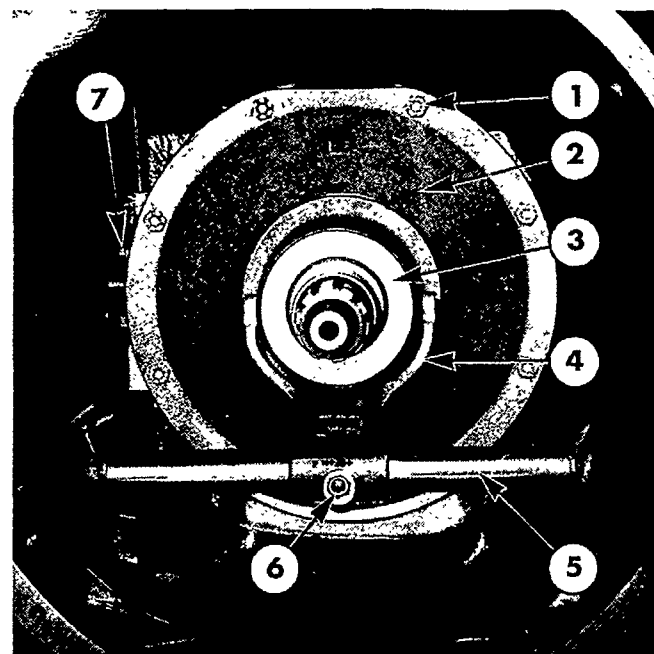

Figure 8
8. Remove the hexagon headed bolt and nut at the base of the fork, Figure 8, support the fork and withdraw the clutch release cross-shaft.